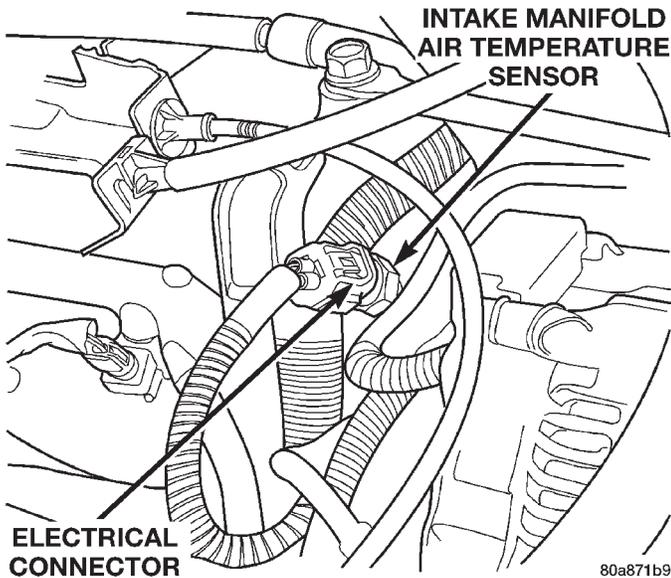

Fig. 27 Air Temperature Sensor—5.2L/5.9L Engines that rubber L-shaped fitting from MAP sensor to the throttle body is firmly connected (Fig. 29).
(9) Inspect fuel tube quick-connect fitting-to-fuel rail connections.
(10) Verify that hose connections to all ports of vacuum fittings on intake manifold are tight and not leaking.
(11) Inspect accelerator cable, transmission throttle cable (if equipped) and cruise control cable connections (if equipped). Check their connections to the throttle arm of throttle body for any binding or restrictions.
(12) If equipped with vacuum brake booster, verify that vacuum booster hose is firmly connected to fitting on intake manifold. Also check connection to brake vacuum booster.
(13) Inspect the air cleaner inlet and air cleaner element for dirt or restrictions.
(14) Inspect radiator grille area, radiator fins and air conditioning condenser for restrictions.
(15) Verify that the intake manifold air temperature sensor wire connector is firmly connected to harness connector (Fig. 27).